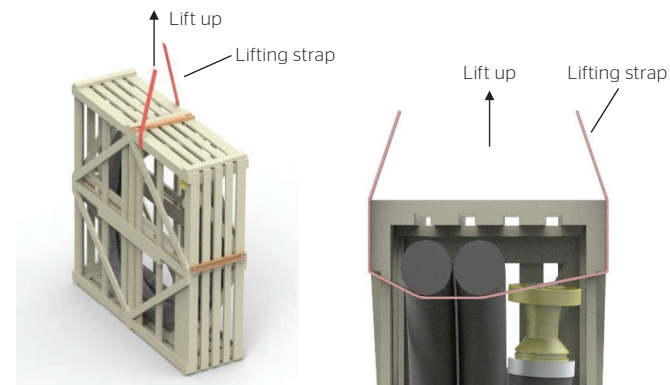

Fig. 11 Lifting by crane
- Using a crane: Lifting slings must be threaded through the middle of the crate, under the flexible line body and around the crate for lifting, see Fig. 11. Use of wire-ropes or chains is forbidden.